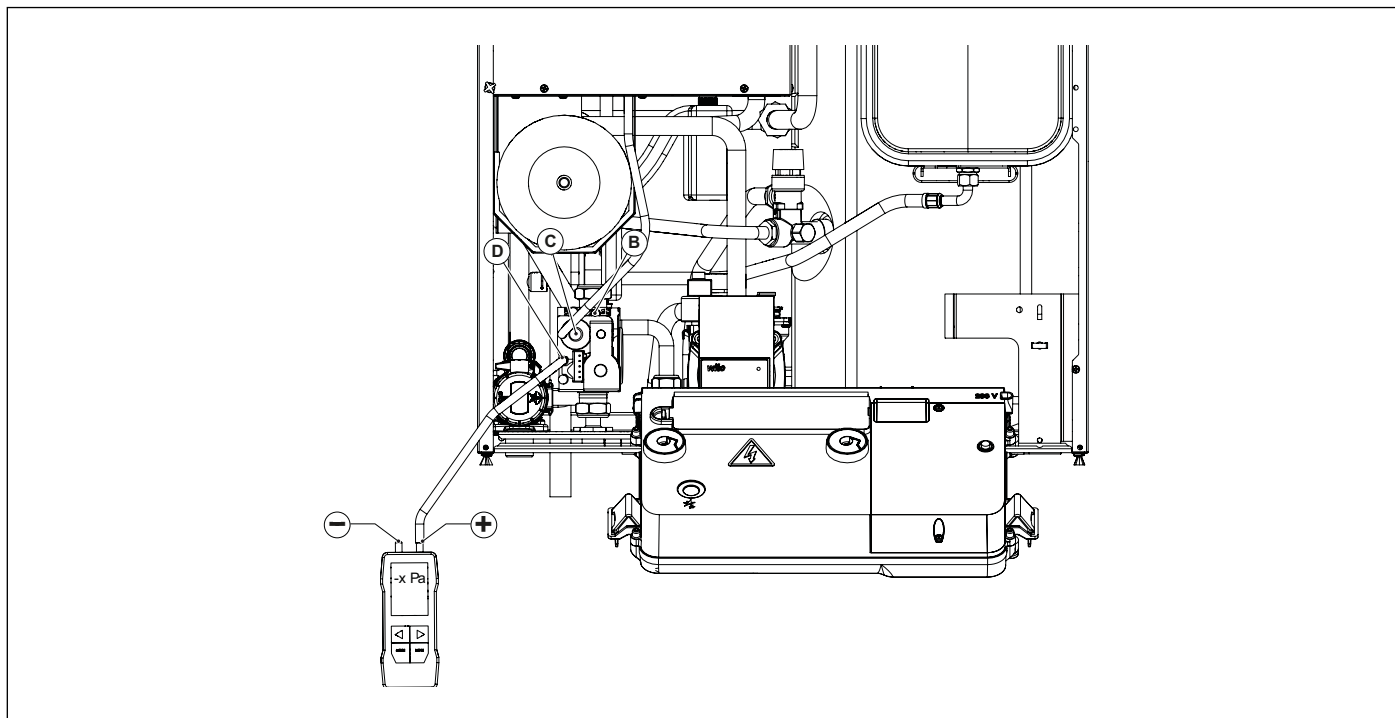

Fig. 37 Offset pressure adjustment
- Open the screw of the offset pressure pick-up point **D** and connect it to the positive input (\*) of the differential pressure gauge (see Fig. 37 Offset pressure adjustment).